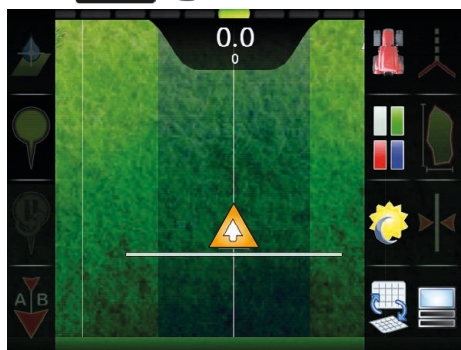

Fig. 413
- 2 Press **F8**. A list of options concerning display modes will appear (Fig. 413). Pressing each key will enable the corresponding function: